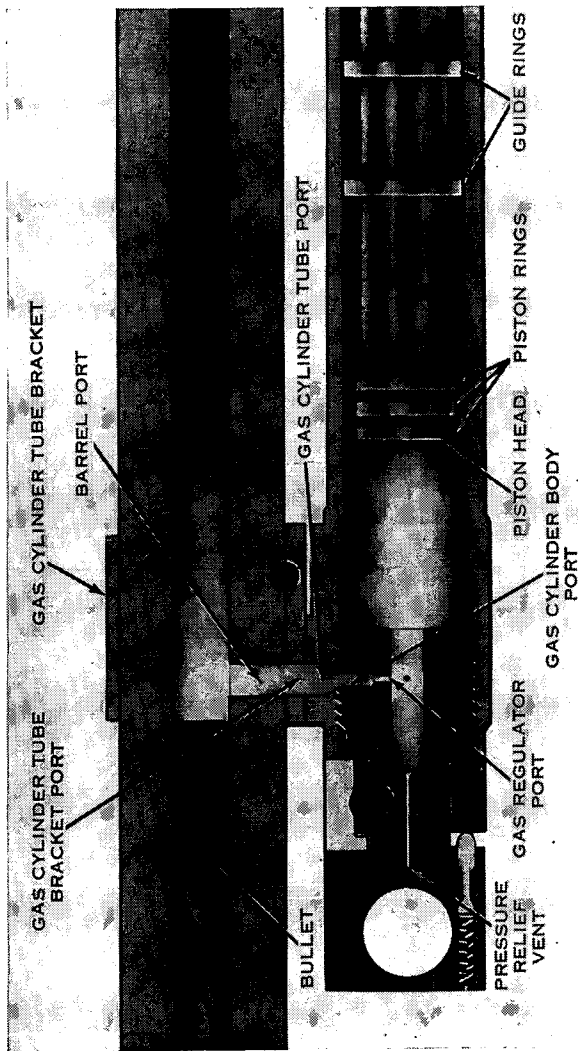

Figure 96. (Superseded) Firing.
d. When a cartridge is fired, the bullet is driven through the barrel by the pressure from the expanding powder gas. About 6 inches from the muzzle, the bullet passes a small hole in the bottom of the barrel. This hole is called the barrel port (fig. 96).
e. As the bullet passes the barrel port, some of the gas under high pressure passes through it. Gas continues to pass through the gas ports for the short time that it takes the bullet to travel the 6 inches from the barrel port to the muzzle. Figure 96 shows the path taken by the gas. First it goes through the barrel port, then the gas cylinder tube bracket port, the gas cylinder tube port, the gas cylinder body port, the gas regulator port, and then into the gas cylinder well. The gas regulator port is the smallest of the four gas ports. It controls the amount of gas entering the gas cylinder assembly. All of the gas ports are stationary except the gas regulator port. There are three different sized gas regulator ports.